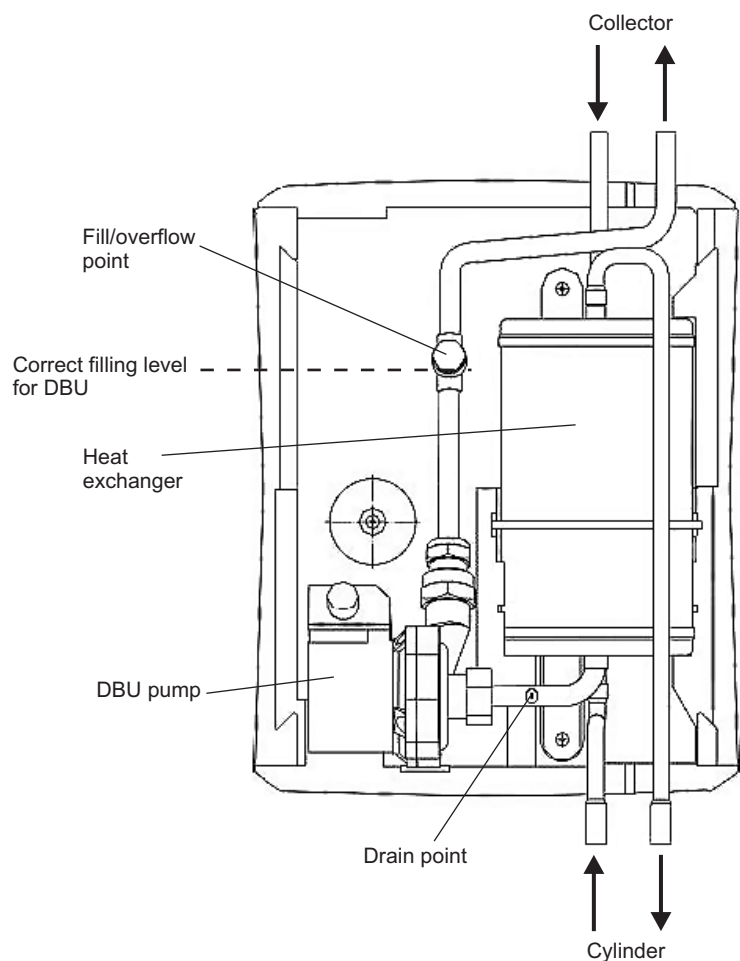

Fig. 19
3. Unscrew the plug located in the fill/overflow point. See Fig. 19.
4. Carefully fill the drain back unit with water (use a flexible tube or funnel) until water overflows from the fill/overflow point (see Fig. 19). This indicates the correct fill level has been reached.